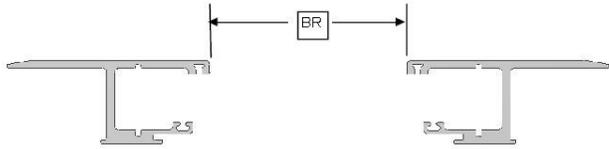

FIG. 4A
Finally, check for proper spacing by measuring between the rails at the canister and the tailgate end of the rails (Fig 4A). The measurement should be equal to or less than those in Fig 4B. The Rail Brackets and Shims have been pre-installed to achieve the proper Between the Rail dimensions (BR) when placed on an average factory truck bed. However, not all truck beds are average dimensionally and some have optional plastic caps or over the rail spray-in bedliners.
Run the adjusting bolt inward toward the bed wall, putting some pressure on the foot. Continue running the bolt inward using the knob until the rail is visually level. The adjusting bolt can be removed and the base flipped 180 degrees to adjust for varying clearance with the bed wall (FIG. 6D). Verify the BTR dimension after the rails are leveled (STEP 4, FIG 4A & 4B).